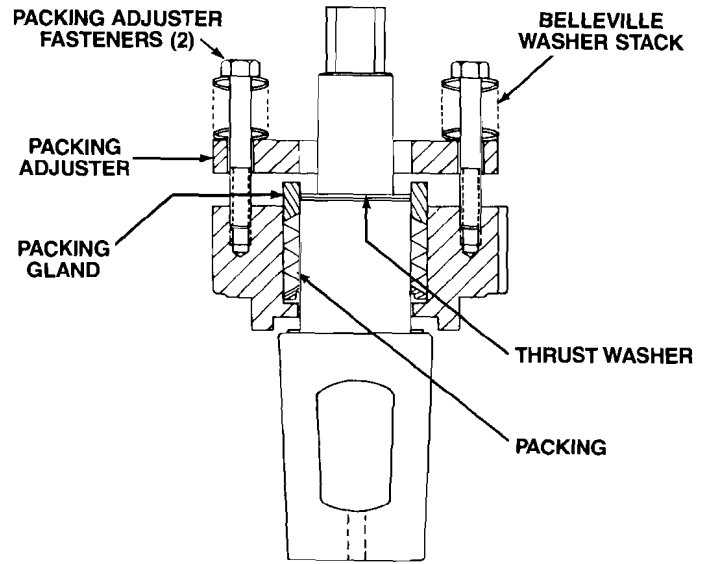

FIGURE VB-7
12. The packing adjuster is placed over the plug stem. Each adjuster fastener shall have twelve (12) Belleville washers placed as shown in Figure VB-7. The packing adjuster fasteners should be tightened finger tight. Care should be taken such that the packing adjuster remains level with respect to the top cap.
13. The thrust washer is placed over the plug stem and should lay flat against the plug stem bearing surface as shown in Figure VB-7.